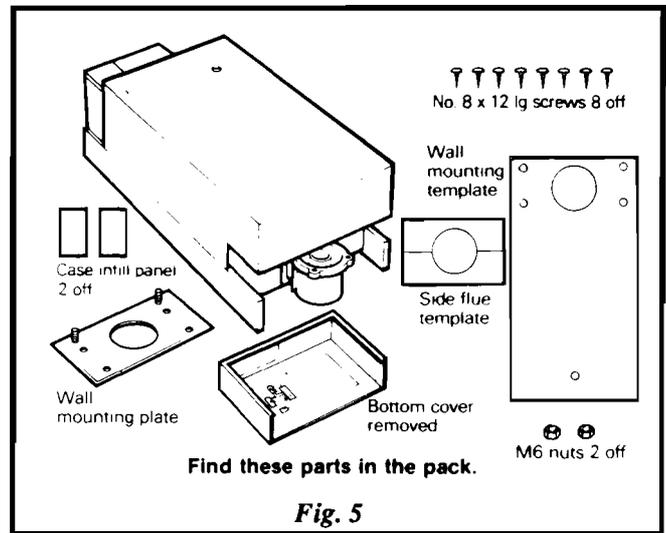

Fig. 5
14.1 Unpack the boiler - see Fig. 5.